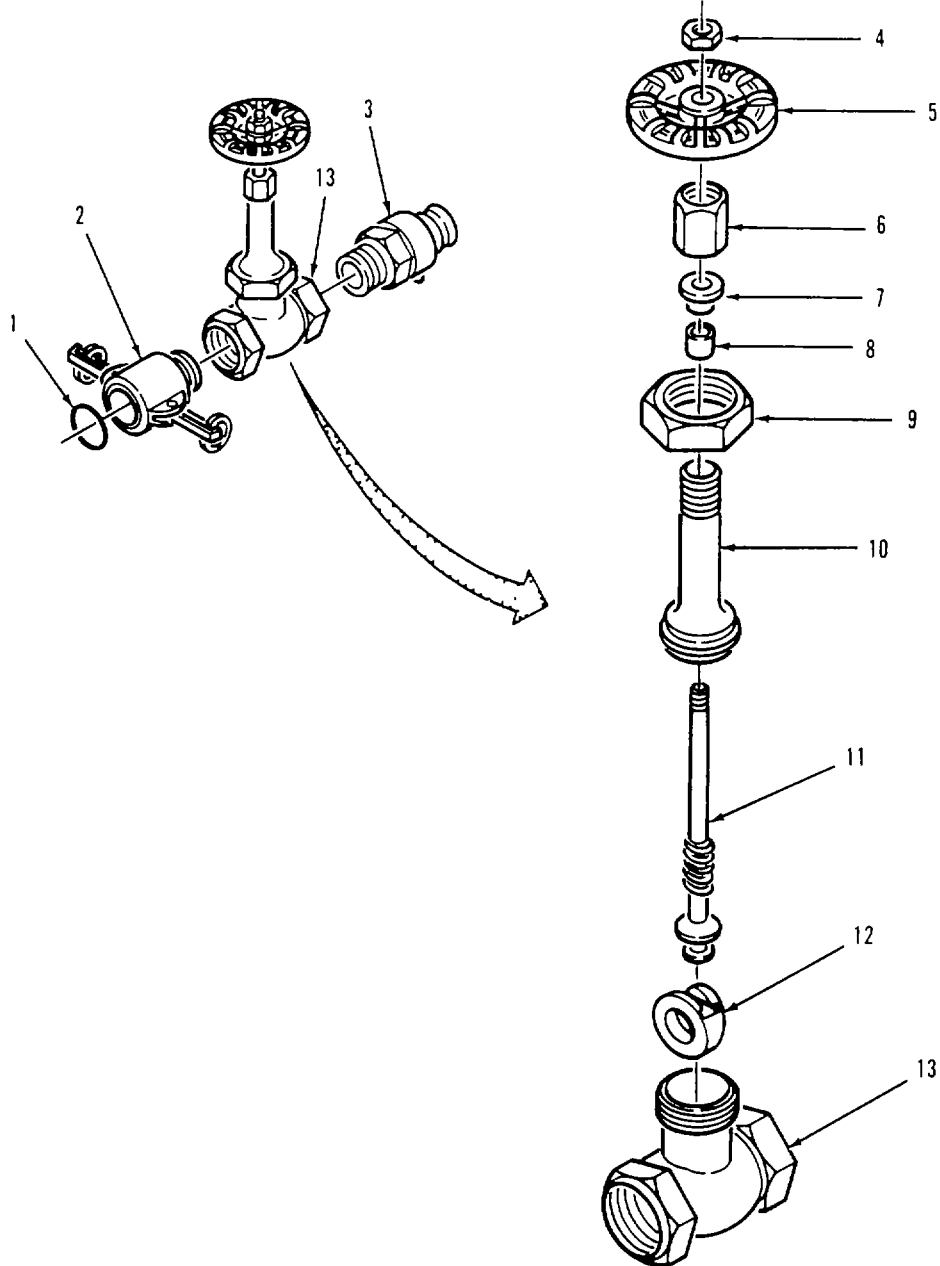

Figure 4-3. Gate Valve Assembly (2-inch) Assembly
- (1) Inspect valve body (13) for cracks and stripped or damaged threads.
- (2) Inspect disc (12) for cuts or scratches across sealing surfaces.
- (3) Inspect bonnet (10) for cracks and stripped threads.
- (4) Inspect stem (11) for stripped, galled or damaged threads.
- (5) Inspect female coupling (2) for cracks, broken lock arms and damaged threads.
- (6) Inspect male coupling (3) for cracks and damaged threads.
d. Repair. Replace all defective parts. Do not reuse packing (8) or gasket (1) If disc (12) or valve body (13) is damaged, replace entire valve.e. Assembly. Refer to figure 4-3.
- (1) Screw stem (11) into bottom of bonnet (10).
- (2) Install new packing (8) and packing gland (7) over stem (11) and into bonnet (10)
- (3) Screw packing nut (6) onto bonnet (10) only finger tight.
- (4) Slide disc (12) onto end of stem (11).
- (5) Lower bonnet (10) and attached parts onto valve body (13) Make sure disc (12) fits in valve body seat.
- (6) Install bonnet ring (9) on valve body (13). Tighten packing nut (6).
- (7) Install handwheel (5) and handwheel nut (4) on stem (11).